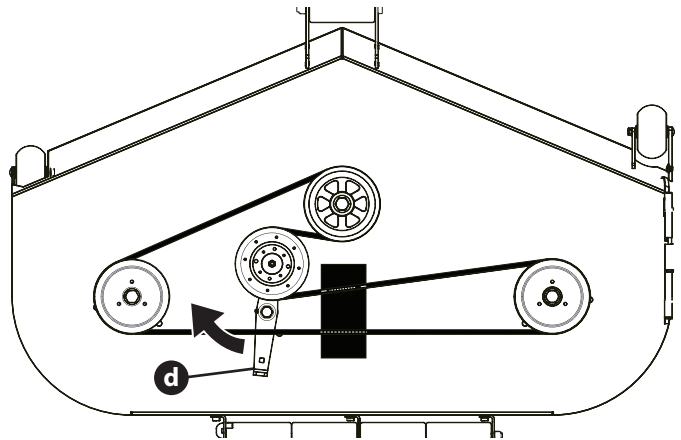

Fig. 40
4. Using a 1/2" (12.7 mm) drive insert the end into the 1/2" (12.7 mm) square opening in the deck idler assembly (d) and rotate the deck idler assembly clockwise (Fig. 40).
6. Route the new belt as shown in Fig. 40. Then reinstall the deck and PTO belt as instructed on page 26.